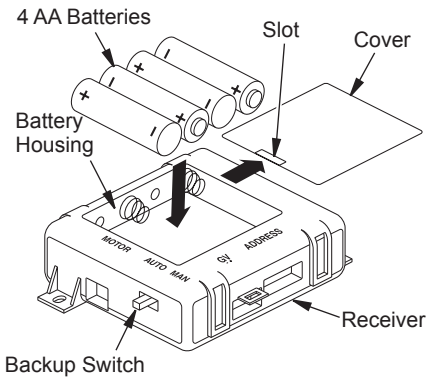

Figure 33 - Installing Batteries in Receiver
1. Locate slot on battery cover of receiver (see Figure 33). Firmly insert tool such as a small screwdriver, butter knife or dime into the slot and lift up to remove cover.